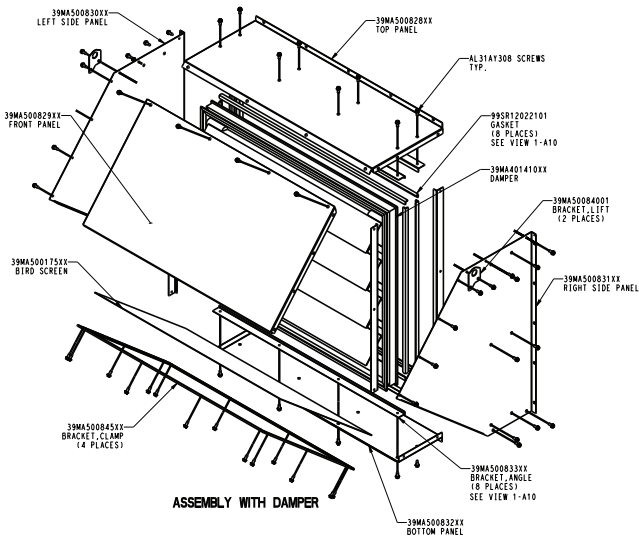

Fig. 63 — Exploded Power Exhaust Hood Assembly with Damper (Size 36 Shown)
1. Below is an exploded view of a power exhaust assembly with and without a damper. See Fig. 63 and 64.